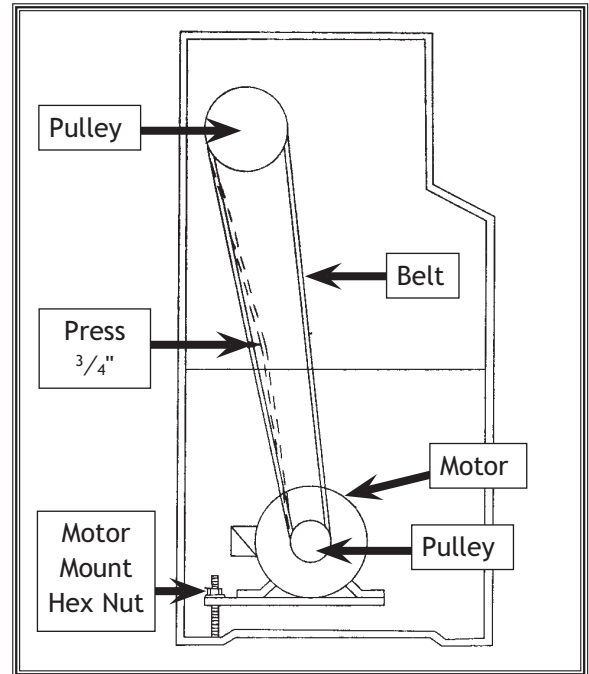

Figure 73. V-belt adjustments.
3. Remove the tension off the old V-belts by loosening the motor mount hex nut (see **Figure 73**).